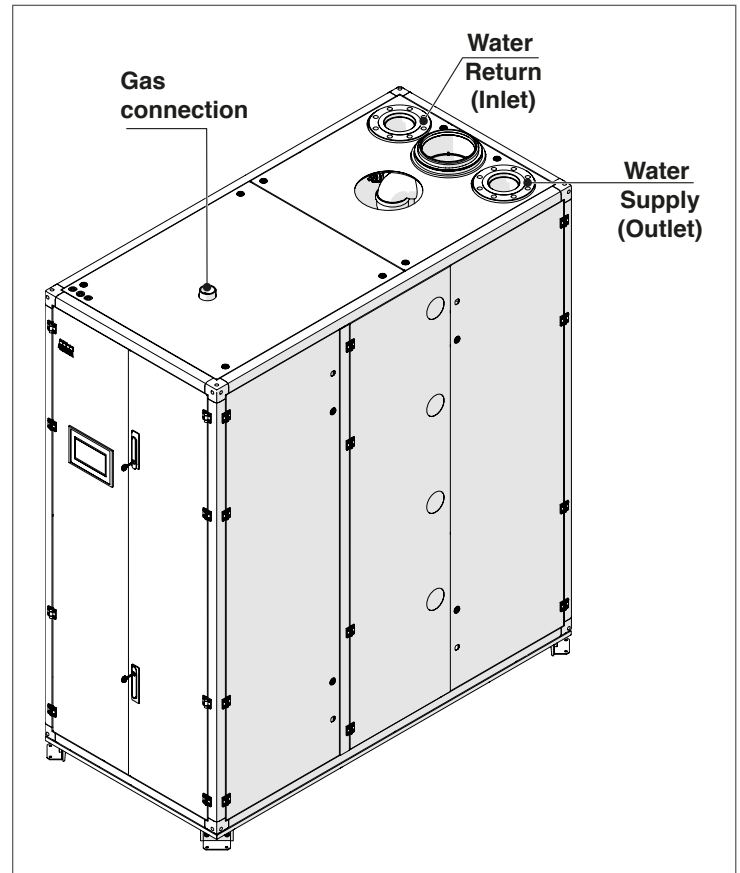

Fig. 9 Array AR 3000 and AR 4000 Connections
The **Array** Boiler utilizes 4" ANSI flanges, for both models **AR 3000** and **AR 4000**, for the water system supply and return piping connections. The physical location of the supply and return piping connections is on the top of the unit as shown in Fig. 9.
**Array AR 3000** and **AR 4000** boilers contain a 2 inch NPT gas inlet connection on the top of the unit as shown in Fig. 9.